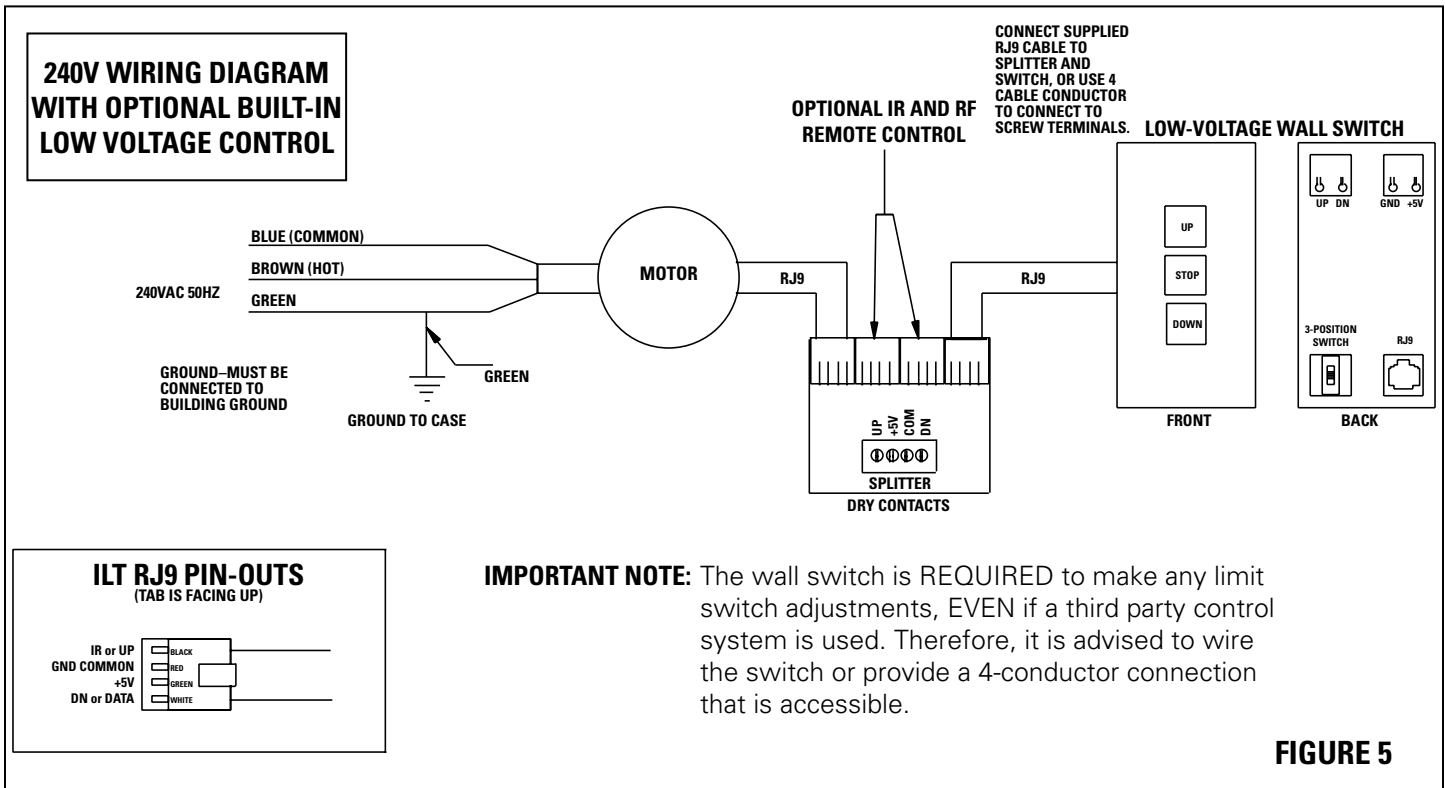

FIGURE 5
2. Locate the two tactile buttons on the back of the switch. They are square silver with black round buttons. See Figure 4 (VPI) or Figure 5 (LVC) for diagram.
2. Locate small 3-position switch on back of wall switch. See Figure 4 for 120V screens or Figure 5 for 220/240V screens.